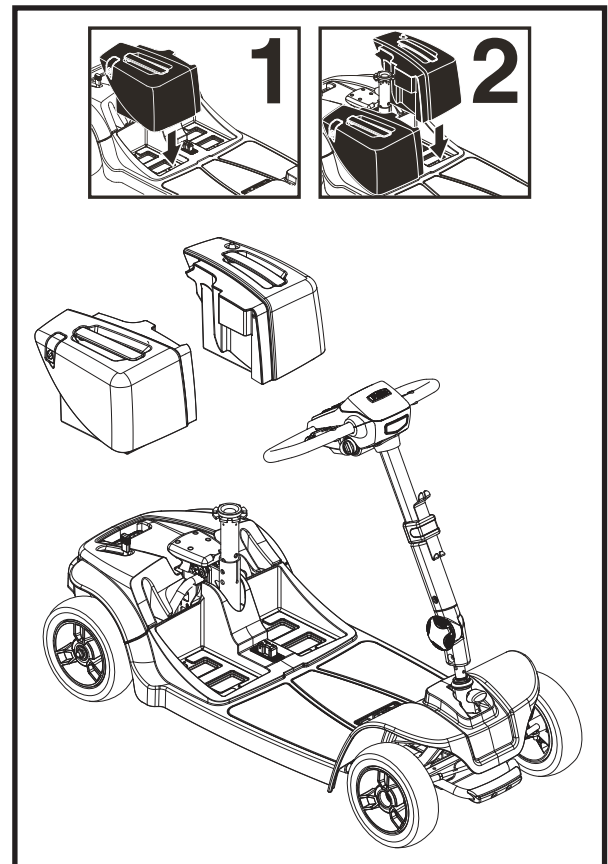

Figure 22. Battery Box Installation of models 66 and 67
12. Reinstall the battery packs onto the scooter and engage the battery pack locks. Always reinstall the right side battery pack first. See figure 22.